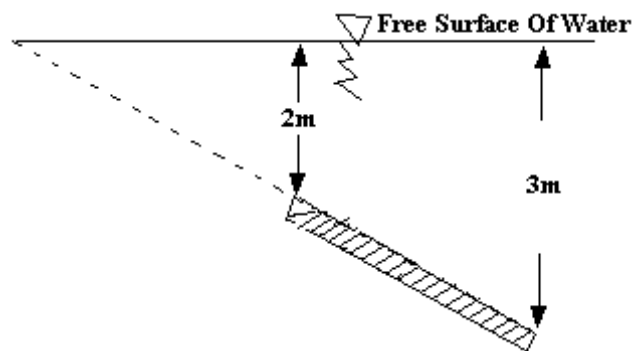

Figure 2c
- (c) A circular plate 2.5 m in diameter is submerged in water as shown in figure 2c. Its greatest and least depths below free surface of water are 3 m and 2 m respectively. Find